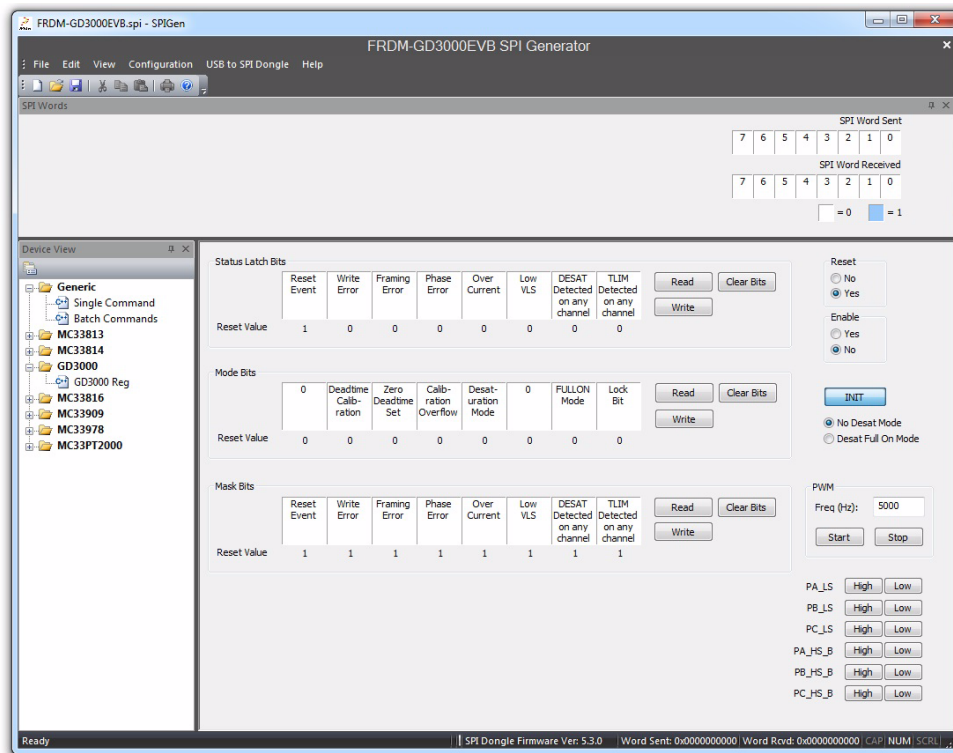

Figure 25. SPIGen GD3000 Init function
- To initialize the device, set **Reset** to **Yes** and **Enable** to **No**, then select the **INIT** button. The MCU automatically initializes the GD3000 driver (Figure 25).